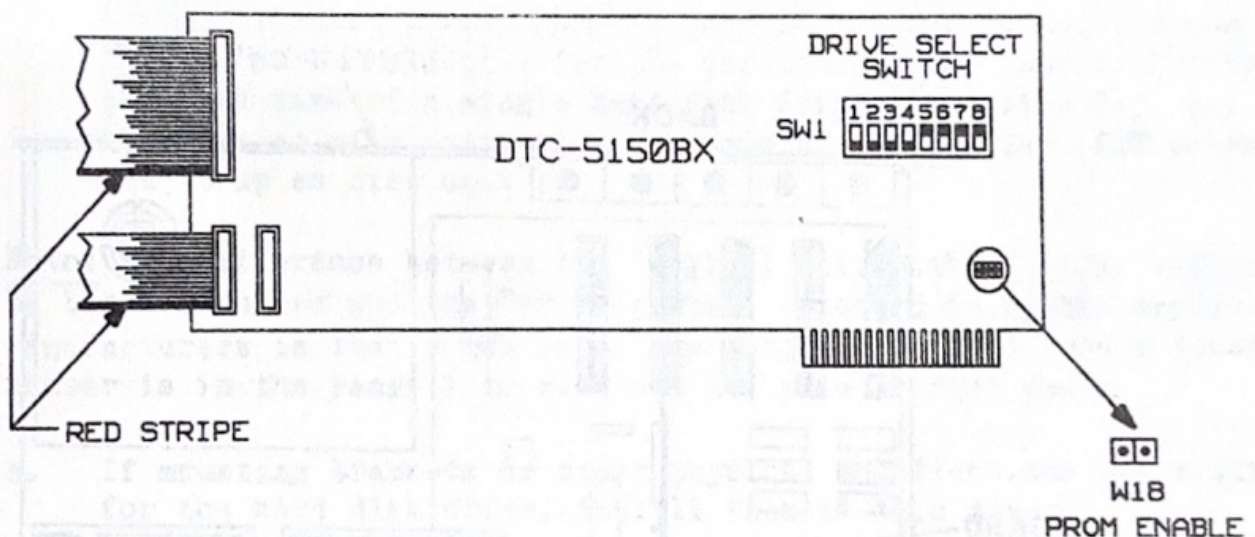

FIGURE 1. LOCATION OF JUMPERS AND SWITCHES ON DTC-5150BX
b. Plug the 34-pin (J1) cable in the 34-pin connector on the DTC-5150BX. If you are connecting two hard disks, use a daisy-chain cable that has connectors for two drives. The red stripe on all cables should be toward the bottom of the connector, corresponding to pin number one on the controller (See Figure 1). The cable extends in the direction of the end of the board.
d. Check for PROM Enable Jumper W18 (See Figure 1) installed.
e. Refer to Appendices A and B to see how to set the drive select switches (8-position switch SW, see Figure 1). These switches must be set according to the characteristics of the drives) You will attach.